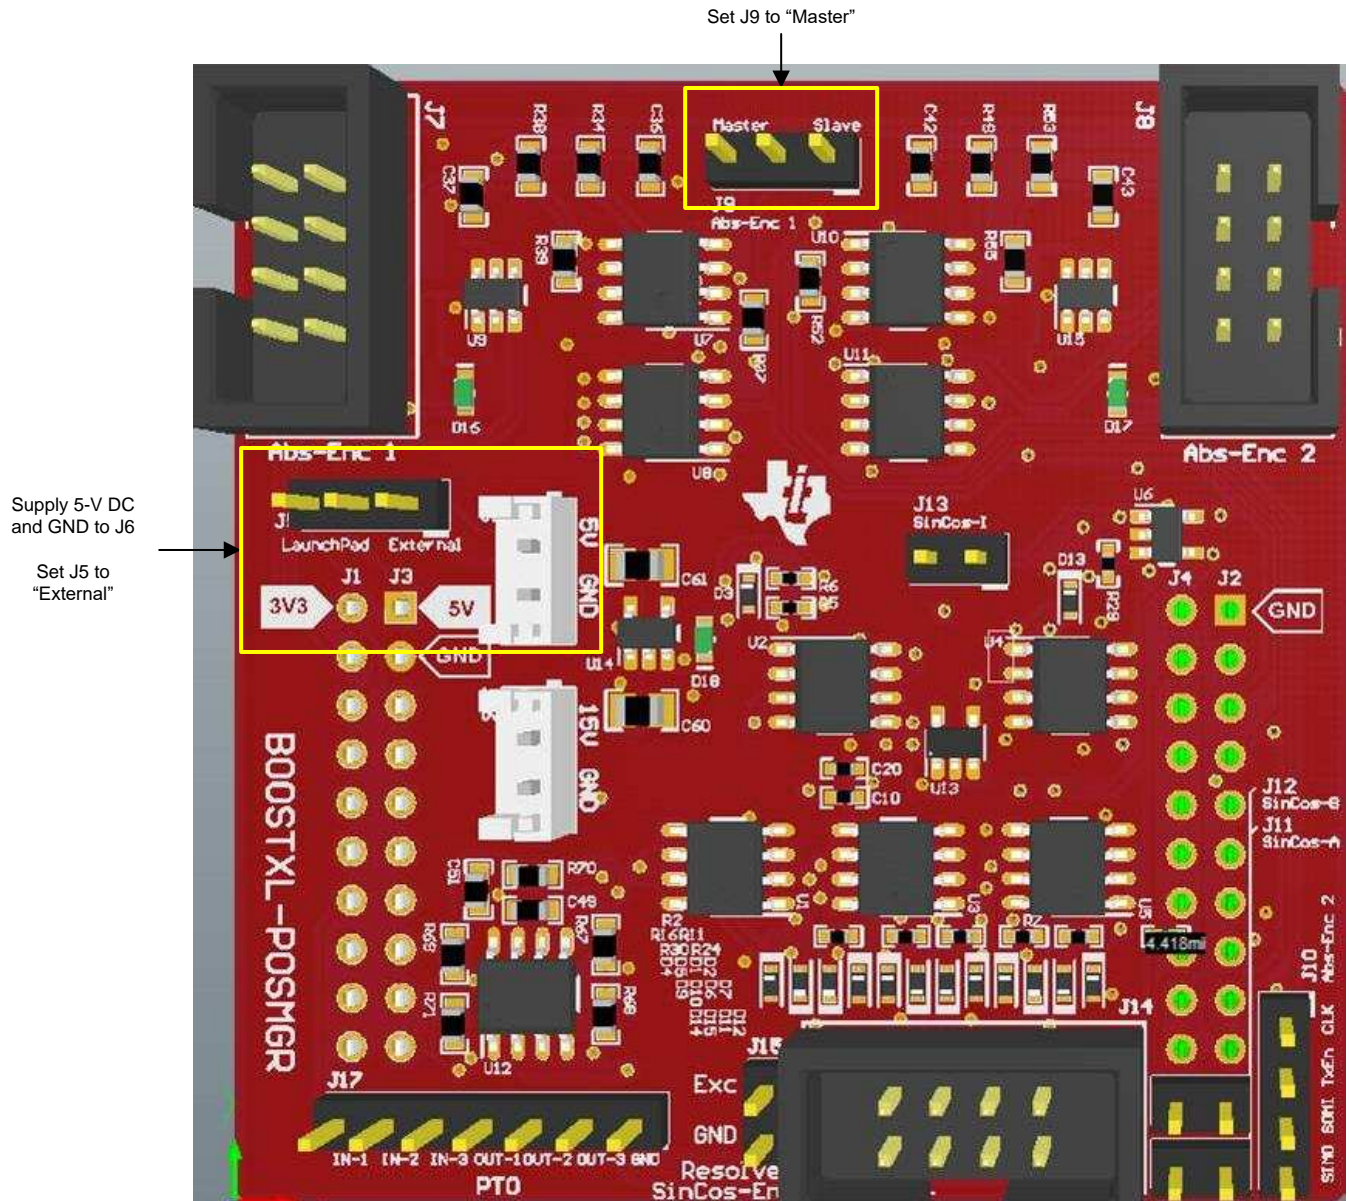
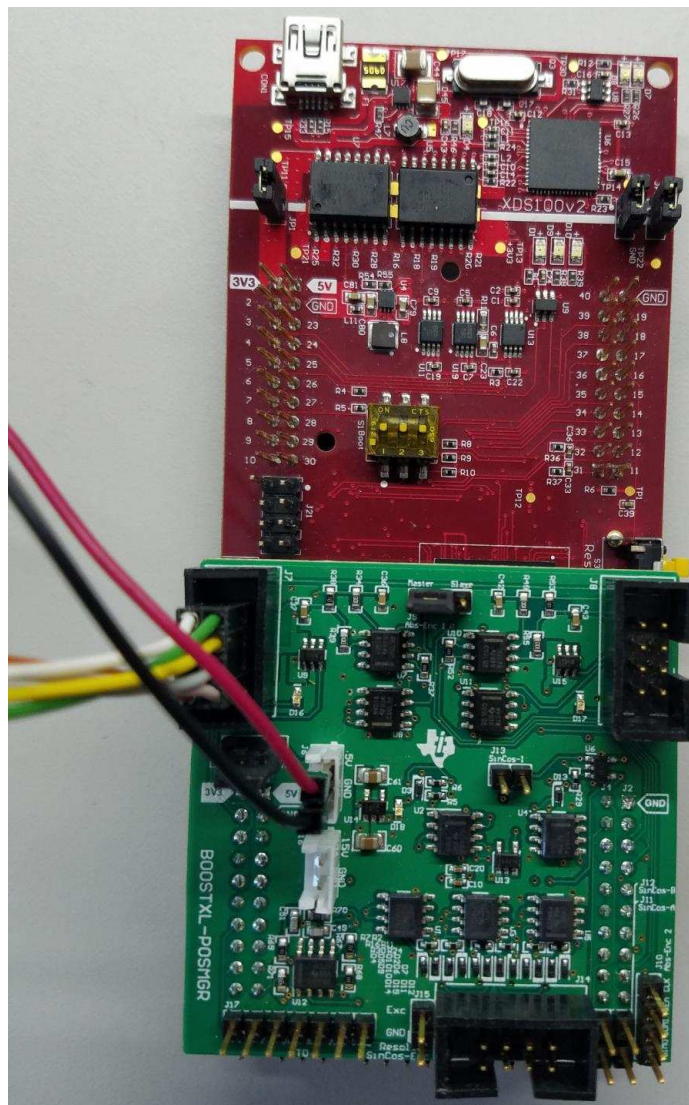

Figure 6. TIDM-1010 Board Jumper Configuration
Figure 12. TIDM-1010 Board Connected to BiSS-C Encoder
Figure 6 shows the jumper configuration for the TIDM-1010/BOOSTXL-POSMGR board.
⁽¹⁾ This configuration requires users provide an external power source to J6, as shown in Figure 6.
5. Supply 5-V DC and GND to J6, as shown in Figure 6. The board should now look like Figure 12. LED D18 should be lit, which shows that the board has power.